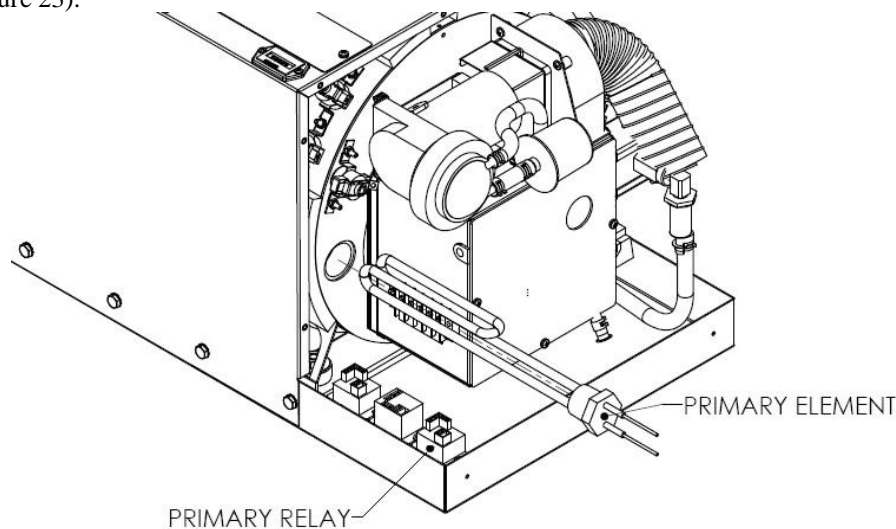

Figure 22: Primary element location
7. Once the tank has been drained, use a 7/8" wrench to remove the level switch (counter-clockwise) from the tank (see Figure 22).